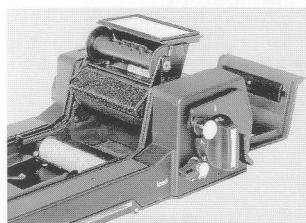

Figure 1
Pull out the coupling button (17) and turn it 90° clockwise. The button should clearly engage in this position. The film cartridge can now be lifted out vertically from the rollfilm holder (Figure 1).